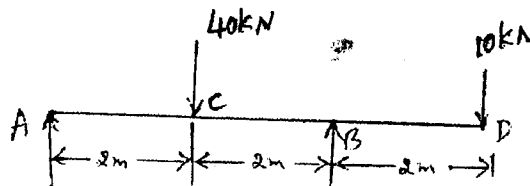

Fig.6(b)
b. Determine the deflection under the loads in the beam shown in fig.6(b). Take flexural rigidity as EI through out. (10 Marks)
- c. Determine the maximum allowable span length 'L' for a simple beam as shown in Fig.6(c). The beam is of rectangular cross section (140 mm x 240 mm) subjected to a uniformly distributed load $q = 6.5$ kN/m and the allowable bending stress is 8.2 MPa. (08 Marks)